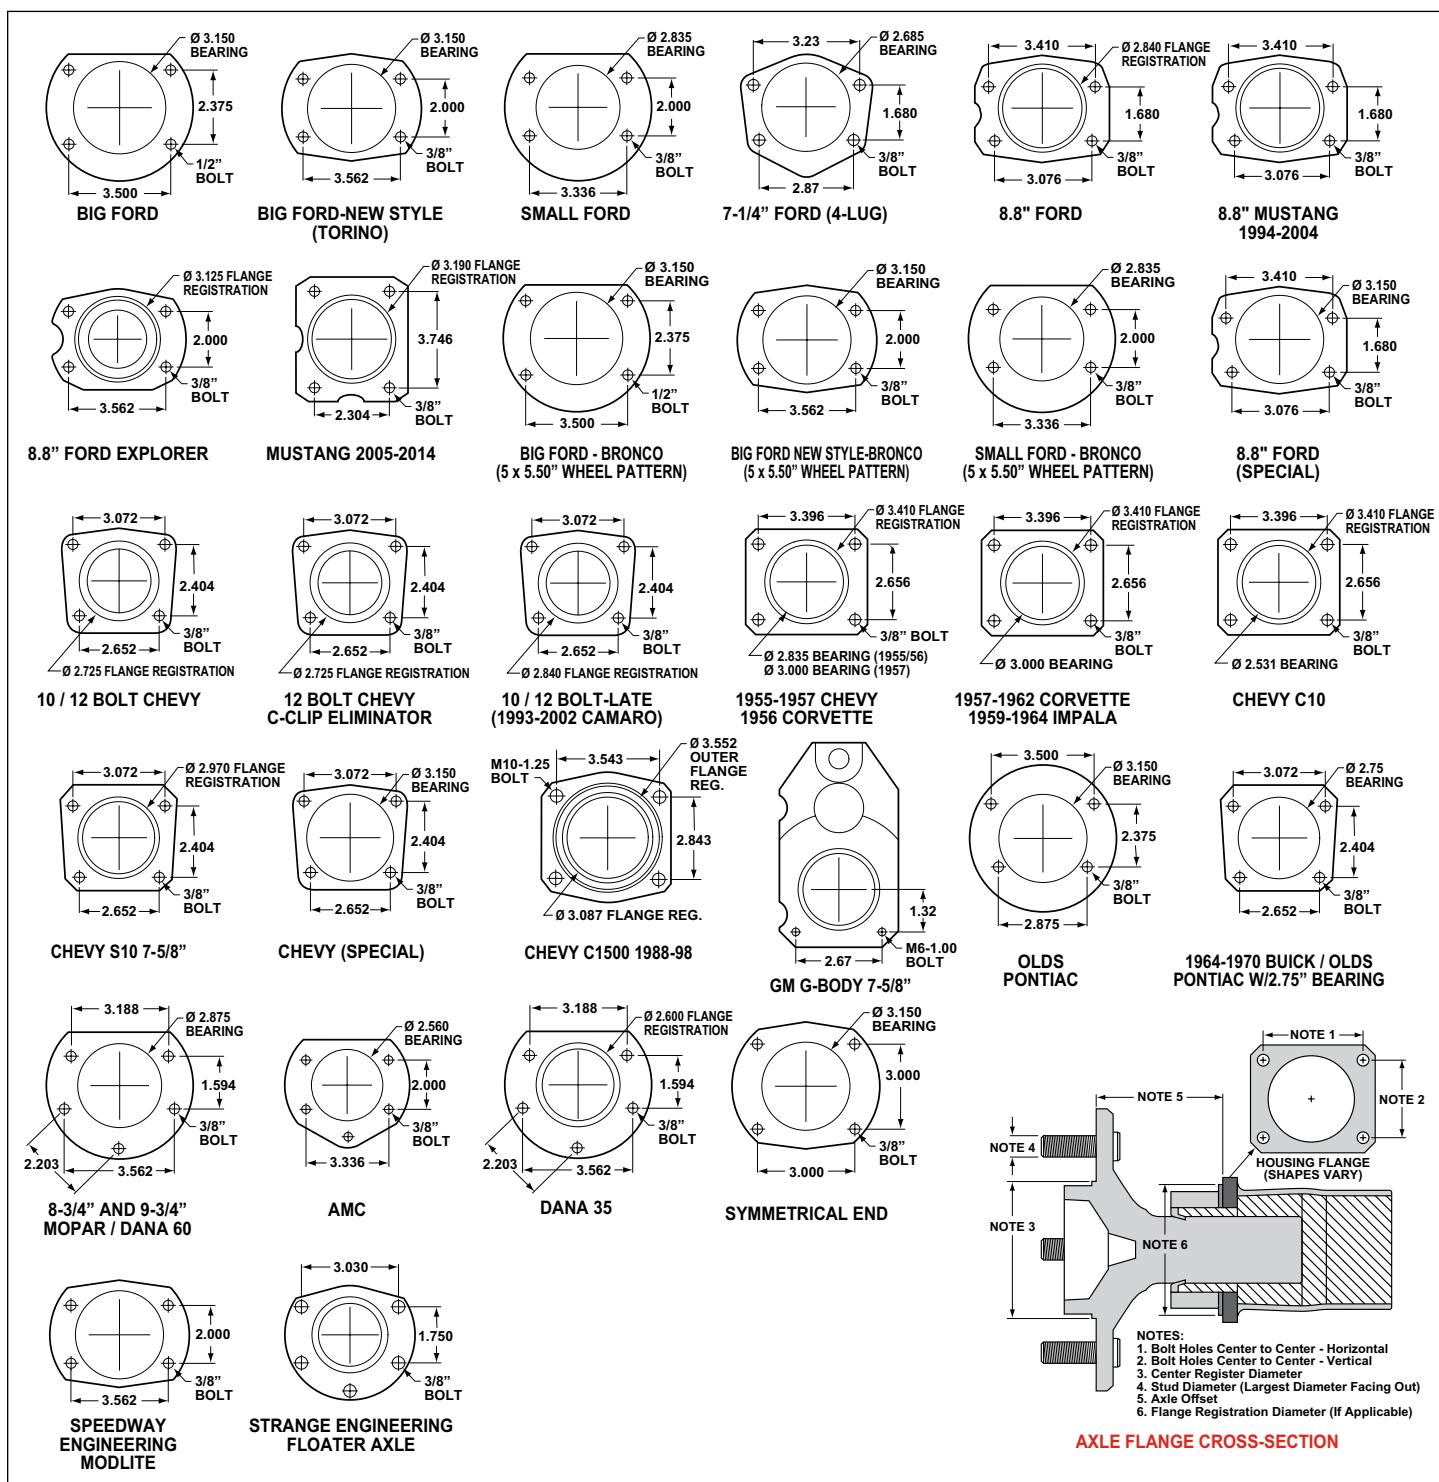

Figure 5. Rear Housing Flange Chart and Axle Flange / Offset Cross-Section
- Dimension from wheel side of axle flange to wheel side of axle housing flange (see Figure 5, lower right hand corner). This dimension is critical to ensure proper alignment of the rotor to the caliper, and should match offset given in the kit description.
housing flange (see Figure 5, lower right hand corner). This dimension is critical to ensure proper alignment of the rotor to the caliper, and should match offset given in the kit description.